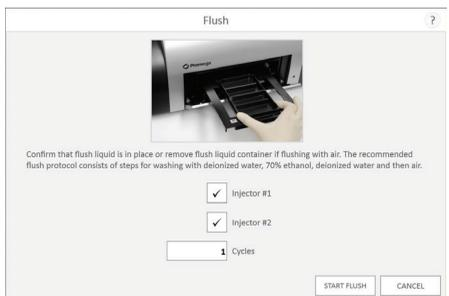

Figure 115. Injector Flush function.
4. Tap the **Start Flush** button (Figure 115).